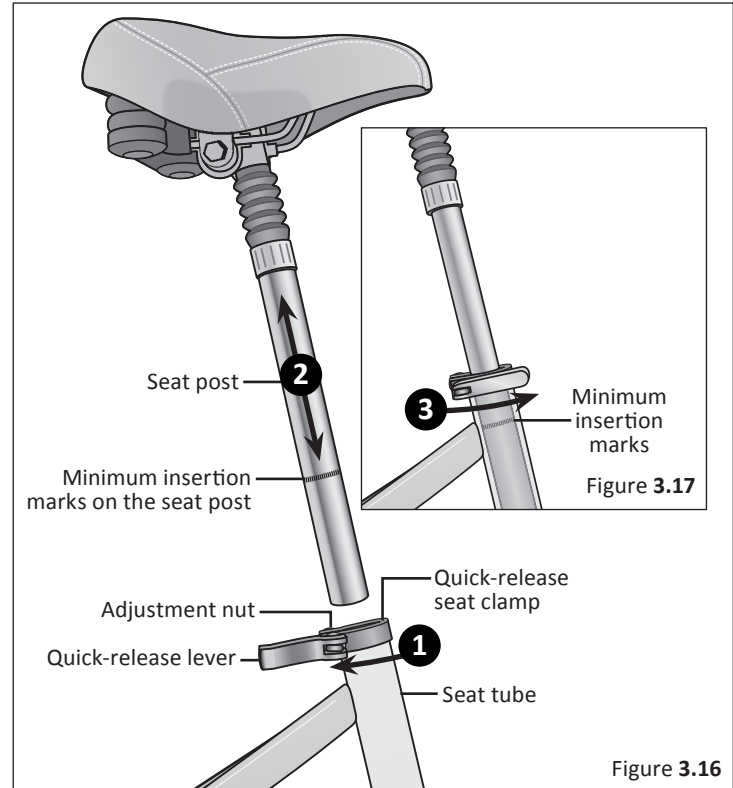

Figure 3.16
**1** Unlock the quick-release lever and insert the seat post into the seat tube. Figure 3.16